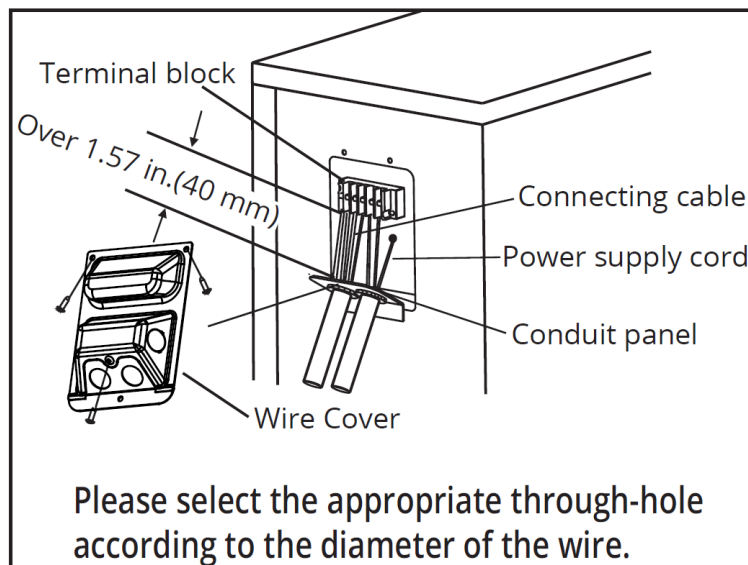

Fig. 5.6
2. Remove the electrical wiring cover from the unit by loosening the 3 retaining screws. Refer to Fig. 5.6.